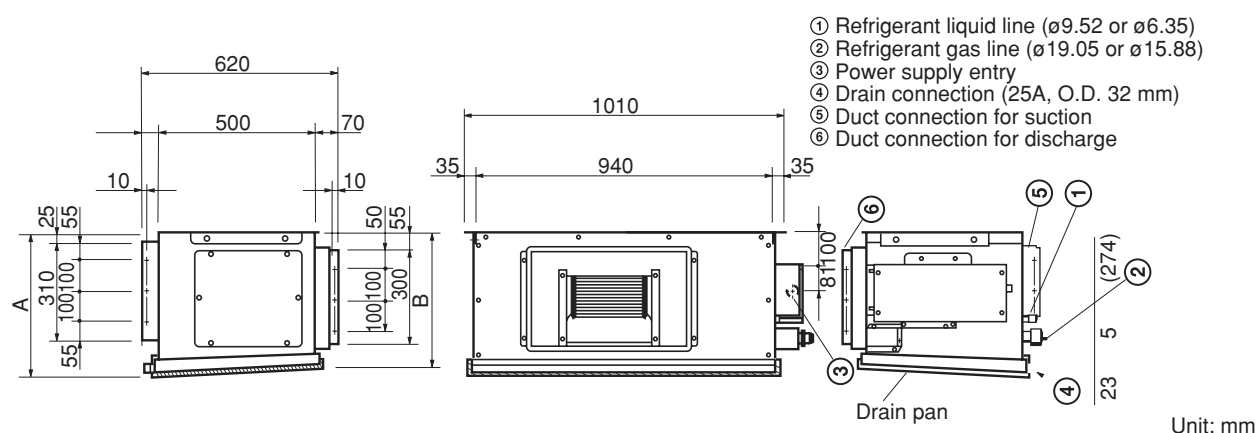

Fig. 3-114
- Fig. 3-114 and Table 3-7 show the detailed dimensions of the indoor unit.